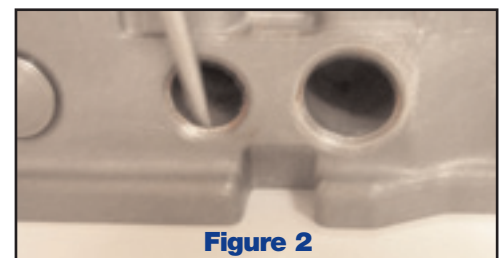

Figure 2
- Inspect the bottom of the “cast-in” chamfer at each bore that will receive an o-ringed end plug. Most valve bodies will have a small ridge at the entry of the valve bore. The ridge is difficult to see with the naked eye but can be located by carefully dragging a sharp “pick” down the chamfer (see Figure 2).